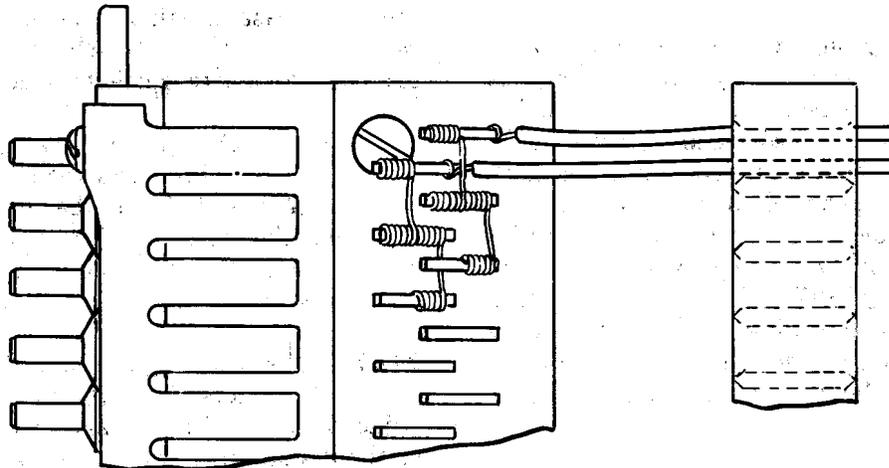

Fig. 31—Metallic Return Feeders—300-Type Connectors (or Earlier 121-Type Protectors)
ring terminal. The ring terminal of each pair shall be connected to the associated tip terminal with 22-gauge bare tinned copper wire. (See Fig. 31 and 32.)
- (a) Terminals of 300-type connectors (or earlier 121-type protectors) shall be strapped in accordance with methods outlined in Section 069-133-801 and as shown in Fig. 31.